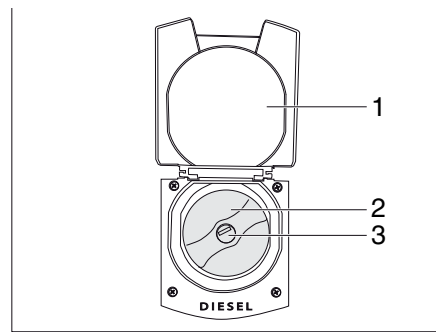

Fig. 34 Opened cover flap for with fuel filler neck
- Close the cover flap (Fig. 34,1).